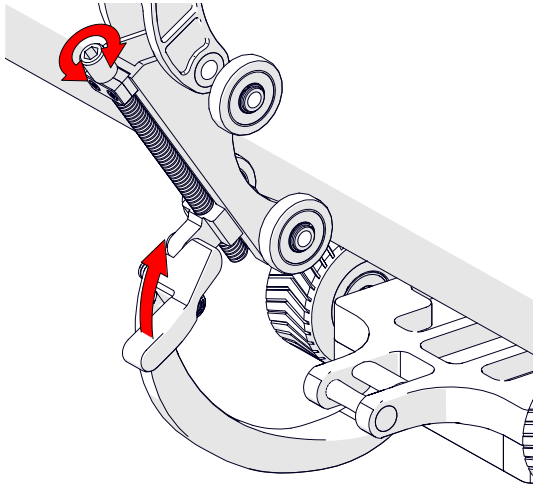

Fig. 74 - Adjust QuickLink buckle as required
10. The buckle adjustment knob may have to be tightened or loosened to allow the buckle arm to reach/hook the source cart's axle (Fig. 74).
11. The buckle adjustment knob may have to be tightened or loosened to achieve the required chain tightness (Fig. 74).